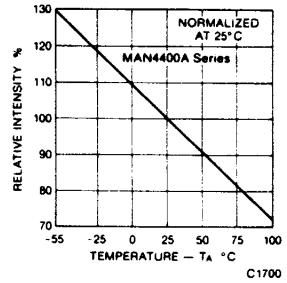

Fig. 3. Relative Luminous Intensity vs.
- The curve in Figures 3, 6, 9, and 12 is normalized to the brightness at 25°C to indicate the relative Luminous Intensity over the operating temperature range.